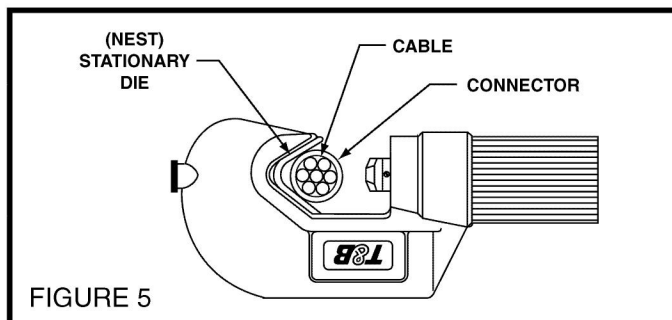

FIGURE 5
- e. Insert lug into tool jaw, see Figure 5, and simultaneously grip tool head.